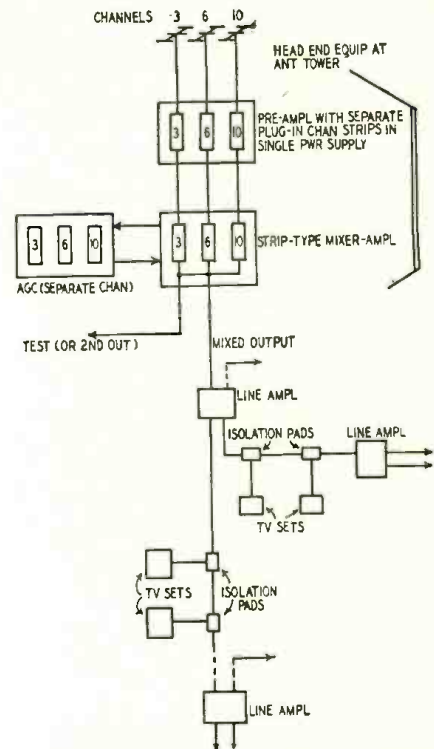

Fig. 3—Block diagram of Philco community-TV antenna distribution system.
3. Individual-channel preamplifiers; similar strip-type re-amplifiers with output-mixing network and a.g.c. See Fig. 3. This system is used in Philco and some International Telemeter installations.